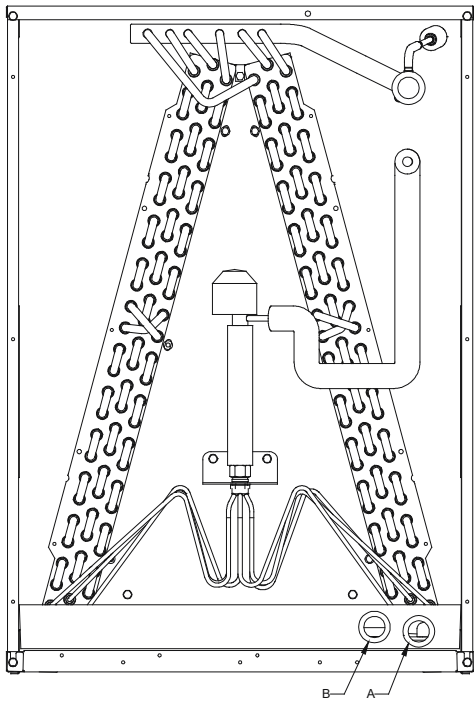
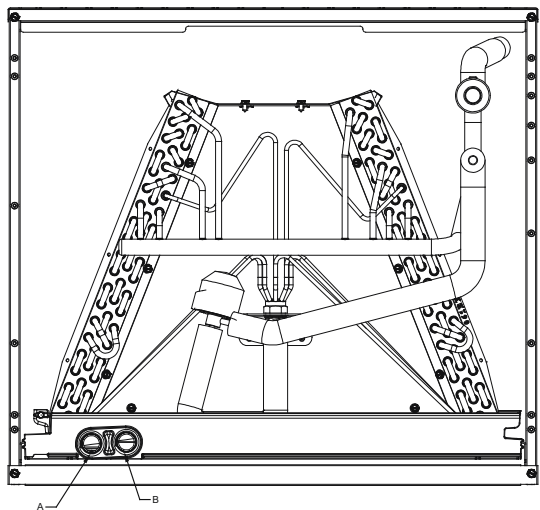

Figure 9
Figure 10
Condensate drain connections are located in the drain pan at the bottom of the coil/enclosure assembly see Figure 9. Use the female (¼” FPT) threaded fitting that protrudes outside of the enclosure for external connections. The connectors required are ¾” NPT male, either PVC or metal pipe and must be hand tightened to a torque of no more than 37 in-lbs, to prevent damage to the drain pan connection. An insertion depth between .36 to .49 inches (3-5 turns) should be expected at this torque.
Drain port labeled (A) in Figure 9 is the primary drain and condensate drain line must be attached to this drain port. Drain port (B) is for the secondary drain line (if used). Use Figure 10 as a template for typical drain pipe routing. This figure shows how to avoid interference with vent piping.